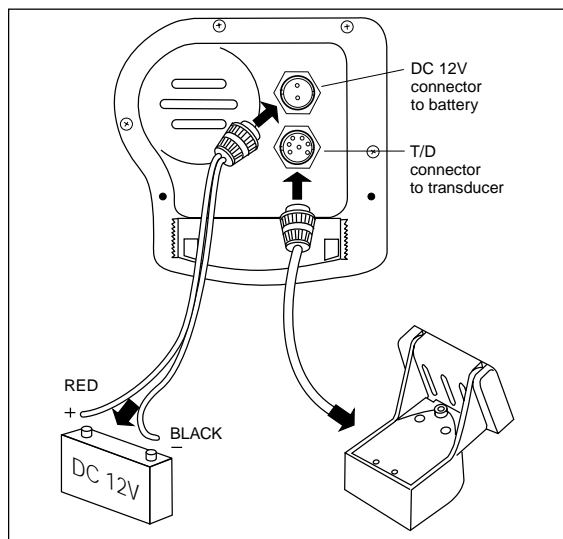

Fig. 2-15
3. It is very important that you connect the power leads correctly. See Fig. 2-15. At the power source, connect the **red** wire to the **positive** terminal (+), and the **black** wire to the **negative** terminal (-). The negative terminal may also be called "ground" or "earth." (The display unit is internally protected if you accidentally reverse the polarity of the power wires.)